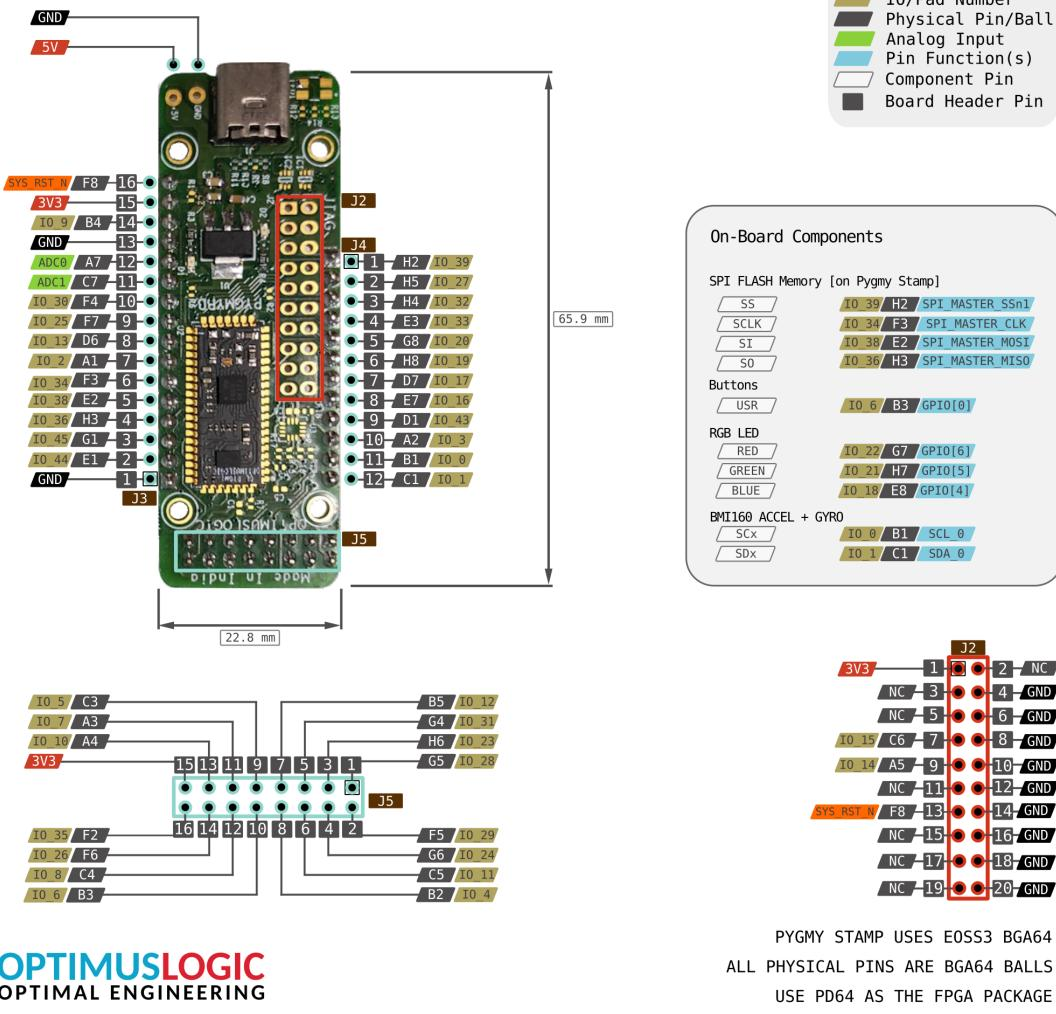

Figure 9.1.3.8.1: Pin diagram
9.1.3.8. Using Table 9.1.3.8.1 and Fig. 9.1.3.8.1, control the onboard LED through an external input. Connect an external LED and control it using an output pin as well.